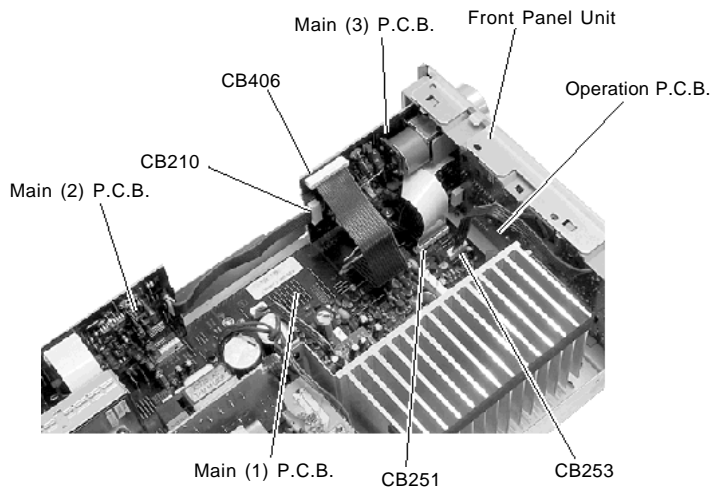

Fig. 2
- a. Disconnect 4 connectors (CB251, CB253, CB210, CB406) in Fig. 2.